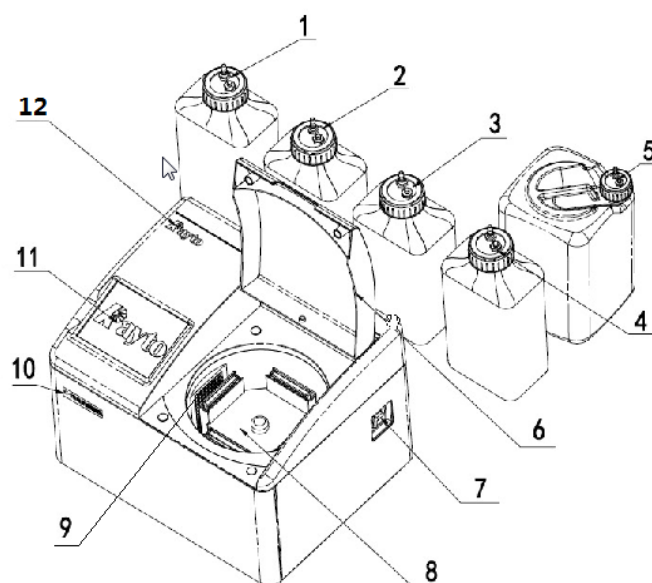

Figure 1-2 Overall Structure of Appearance
- **Installation of Cleanser Bottle:** As shown in Figures 1-2 and 1-3, when you face the back of the instrument, put Cleanser A bottle, Cleanser B bottle, Cleanser C bottle and deionized water bottle in turn from left to right.
- **Installation of Waste Liquid Container:** As shown in Figures 1-2 and 1-3, put the waste liquid container on the ground, install the lid of the waste liquid container onto the waste liquid container, and arrange the waste liquid tube. There should be no folding, tilting, U shape, etc. that cause poor drainage of the waste liquid tube from the bottom of the instrument to the waste liquid container. After the waste liquid container is installed, pour 500mL deionized water into the centrifugal module and check that the waste liquid can be smoothly discharged to the waste liquid container.